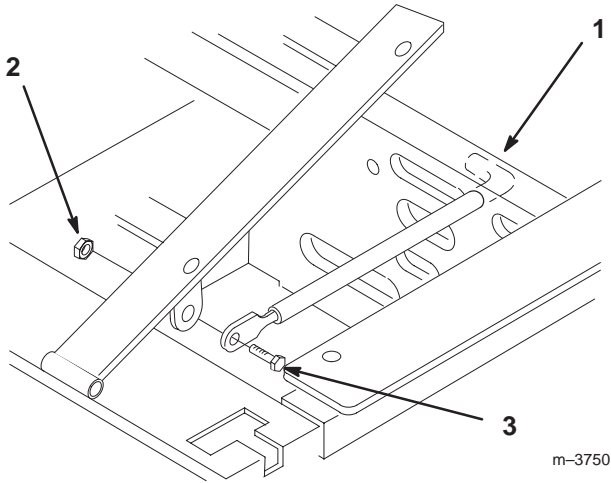

Figure 3
1. Tilt seat up. Remove the locknut (5/16 in.) from bolt attaching seat retaining rod to seat frame (Fig. 3).
- Remove retaining rod from seat and insert the **L** shaped end of the rod into the hole directly above the left-side hydraulic pump (Fig. 3).
- Place the seat retaining rod to the outside of the mounting tab of the seat frame and secure with a bolt (5/16 x 1 in.) bolt and locknut 5/16 in. (Fig. 3).